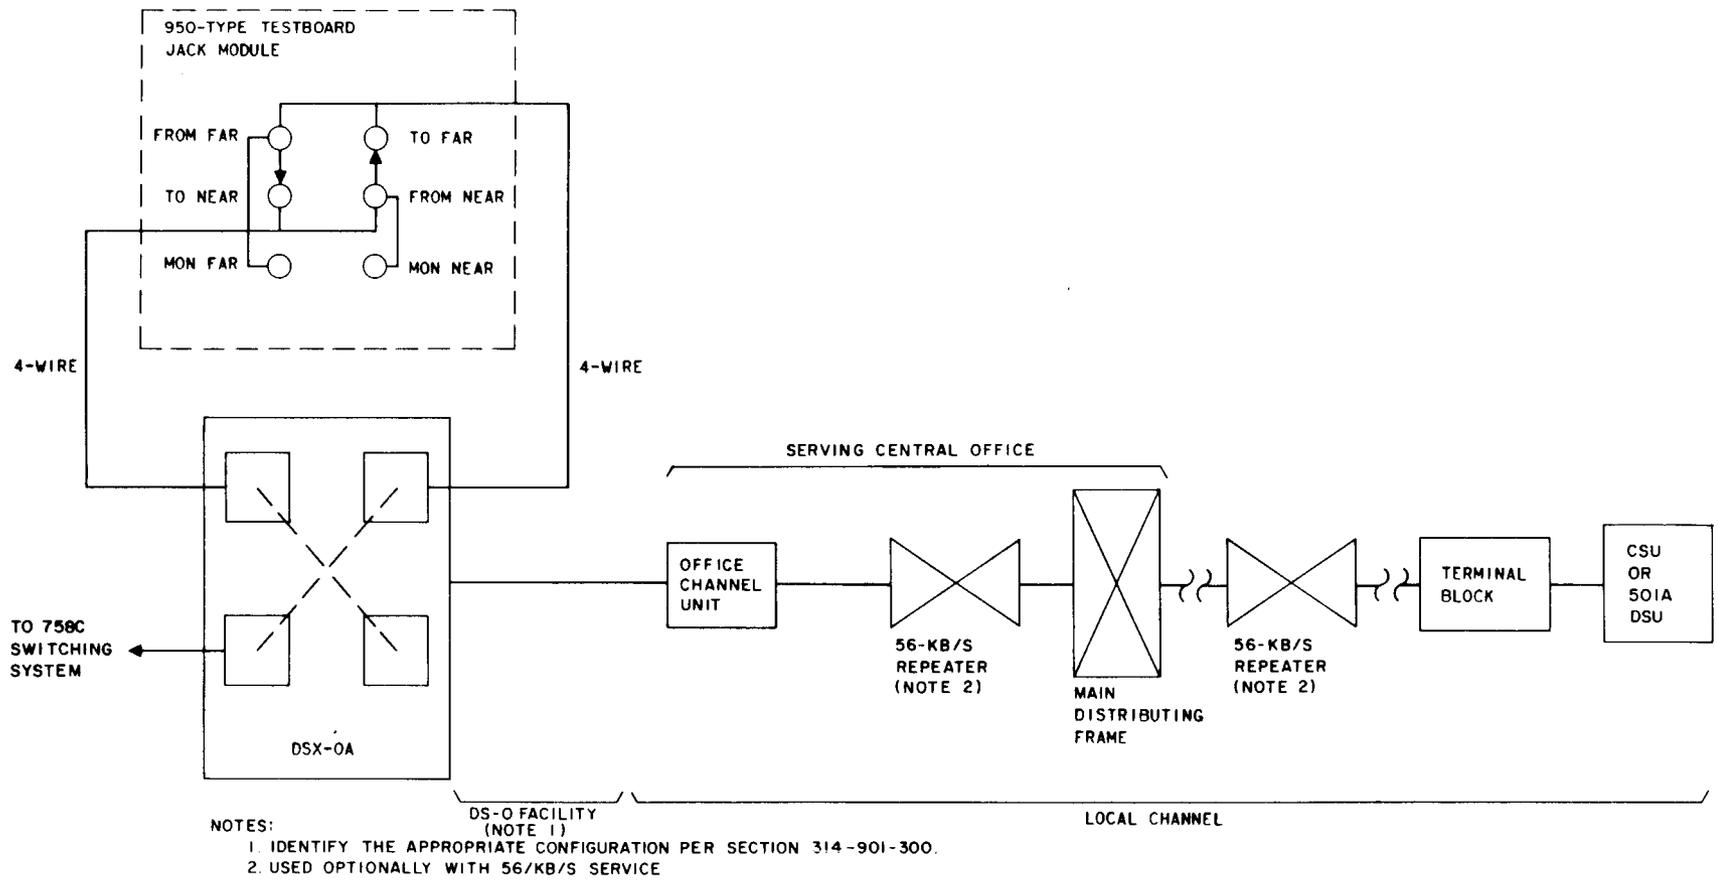
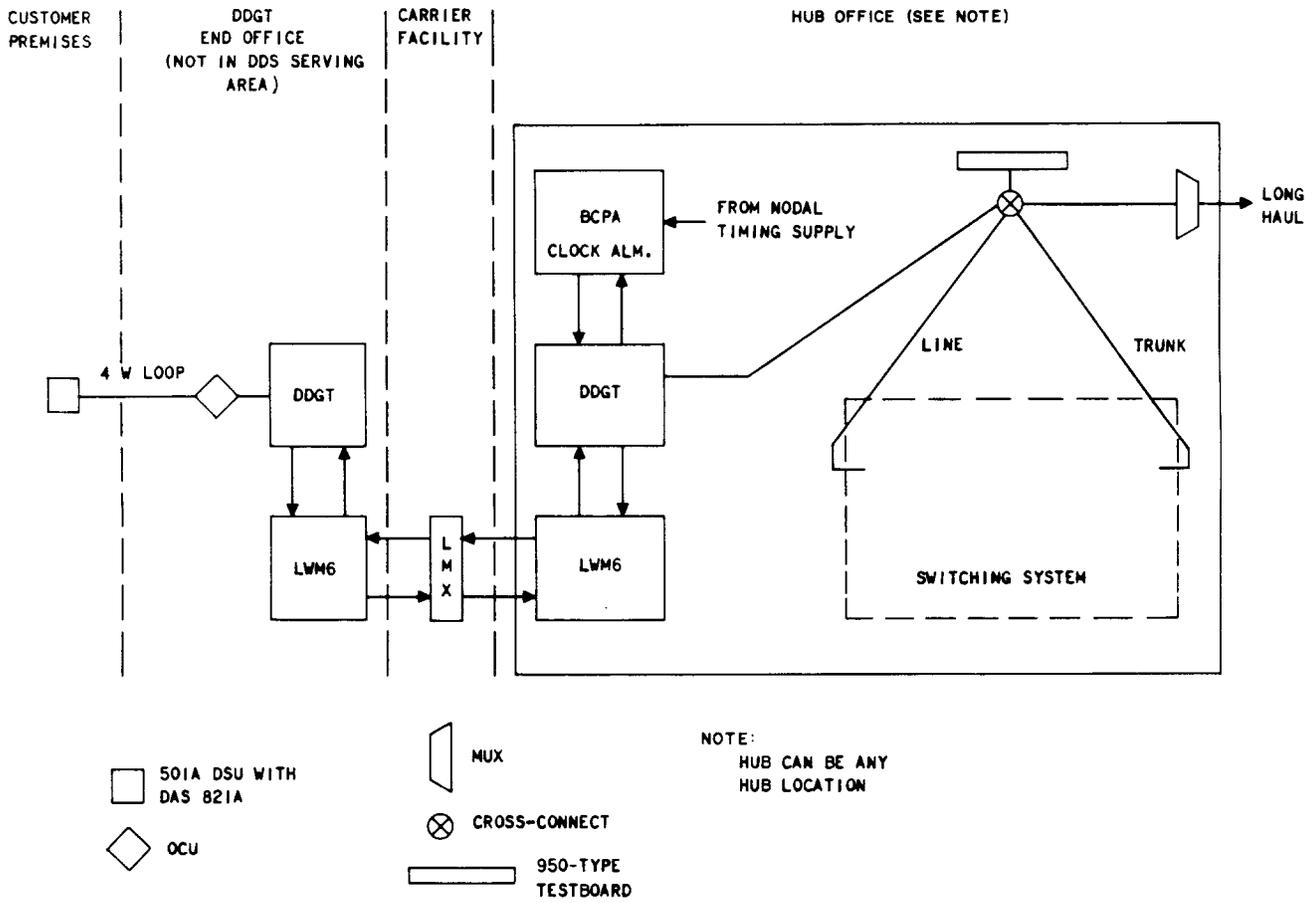

Fig. 2—Access Line
Fig. 3—56-kb/s Off-Net Extension Arrangement
**2.02** Simplified details of the access line are shown in Fig. 2. A simplified circuit arrangement for a 56-kb/s off-net extension is illustrated in Fig. 3.